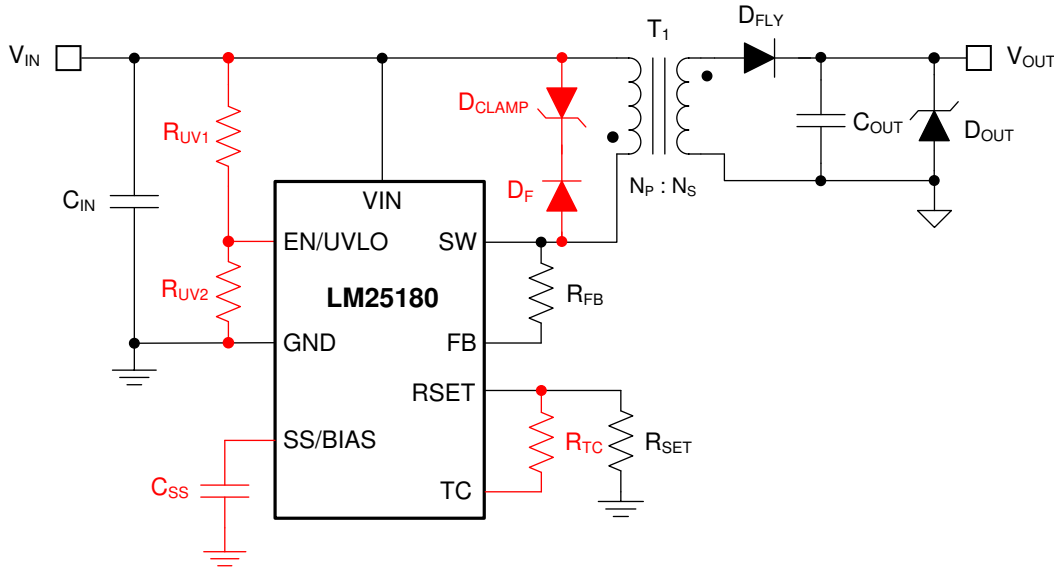

图 19. LM25180-Q1 Flyback Converter Schematic (Optional Components in Red)
Figure 19 shows a typical schematic of the LM25180-Q1 PSR flyback circuit. Components denoted in red are optional depending on the application requirements.
To minimize output voltage regulation error, the LM25180-Q1 senses the reflected secondary voltage when the secondary current reaches zero. The feedback (FB) resistor, which is connected between SW and FB as shown in 图 19, is determined using 公式 8, where R_{SET} is nominally 12.1 k Ω .